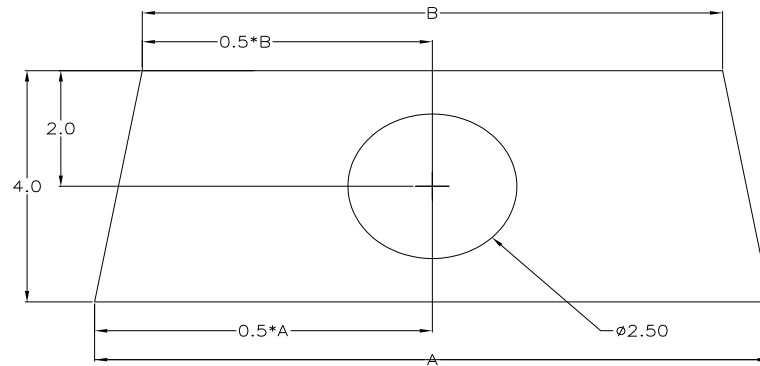

Figure C-21 Example Magnetometer Shelf
3. Measure the fuselage in multiple locations to determine the size of the shelf. The shelf will have an approximate trapezoidal shape and should have a depth of at least 4.0 in. Cut the shelf from 0.25 in. thick, 2-ply per side prepreg. Cut a 2.50 in. diameter hole in the center of the shelf, as indicated in Figure C-21. Alternately, the 2.50 in. diameter hole can move left or right on the shelf, so long as there is adequate clearance to install or remove the magnetometer. By placing the hole in the center of the shelf, the elevator control tube can be used more effectively in a later step to align the GMU 44 Installation Rack with the aircraft's forward direction. Prepare for shelf installation by sanding, roughing up, and cleaning all bonding areas on the shelf and fuselage for best adhesion.